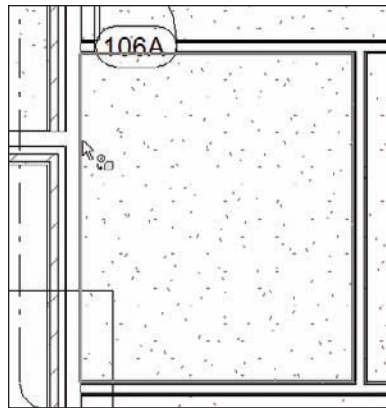

FIGURE 6.44 Filling the region with the new material
3. Move your cursor over the region you just created. Notice the material icon next to your cursor, as shown in Figure 6.44.